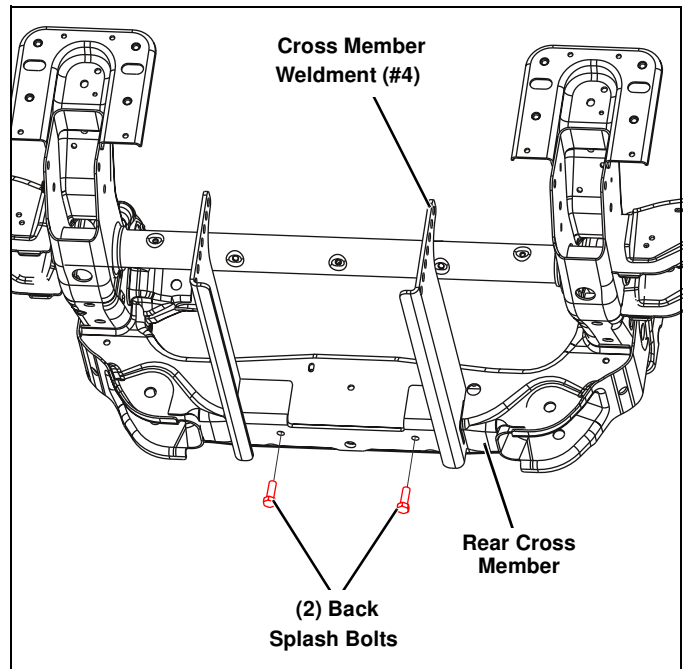

Figure 1
3. Set the Cross Member Weldment (#4) against the rear cross member and line up with the existing holes. Insert the bolts from the back splash guard back through the back splash guard, then item #4 and thread into the rear cross member. (See Figure 1.)